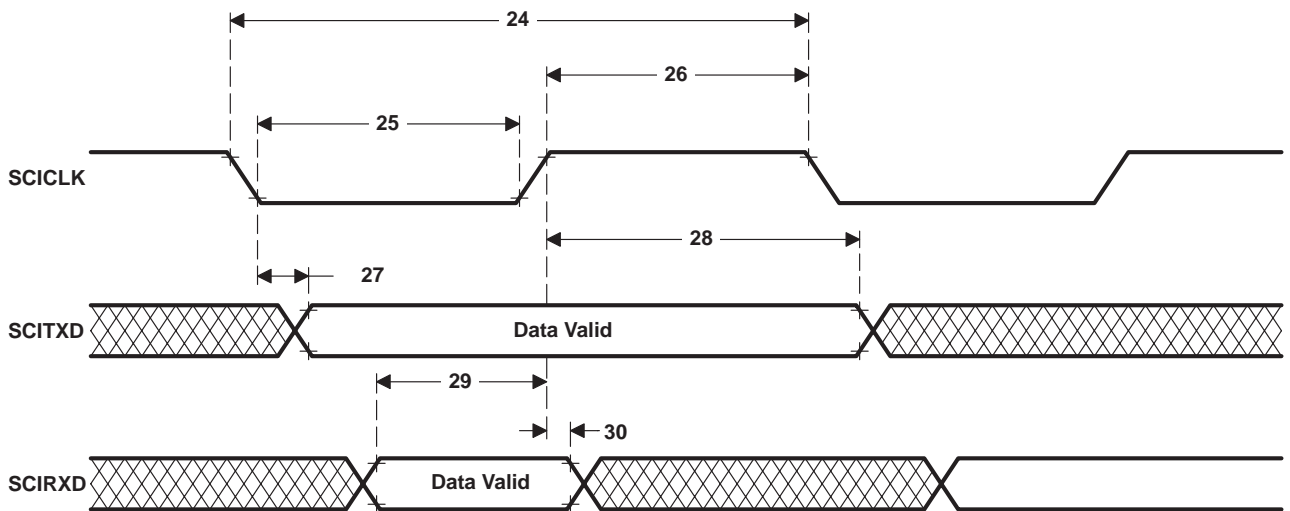

Figure 29. SCI1 Isosynchronous-Mode Timing for Internal Clock
**SCI1 isosynchronous-mode timing characteristics and requirements for internal clock (see Note 14 and Figure 29)**